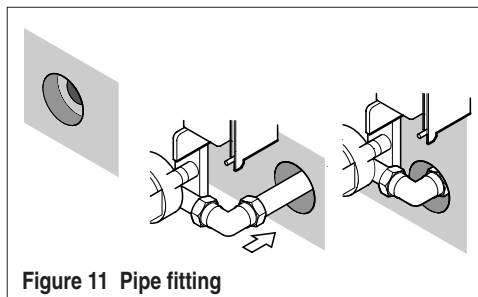

Figure 11 Pipe fitting
5.13 Rear Entry. If the pipework is to enter from the rear, you must cut away the wall from around the pipe to allow room for the nut on the compression elbow to be recessed into the wall - see Fig. 11. The pipework must be connected to the elbow BEFORE the shower is fitted to the wall; if you were to fix the pipe in place first, you would not be able to get a spanner onto the compression nut.